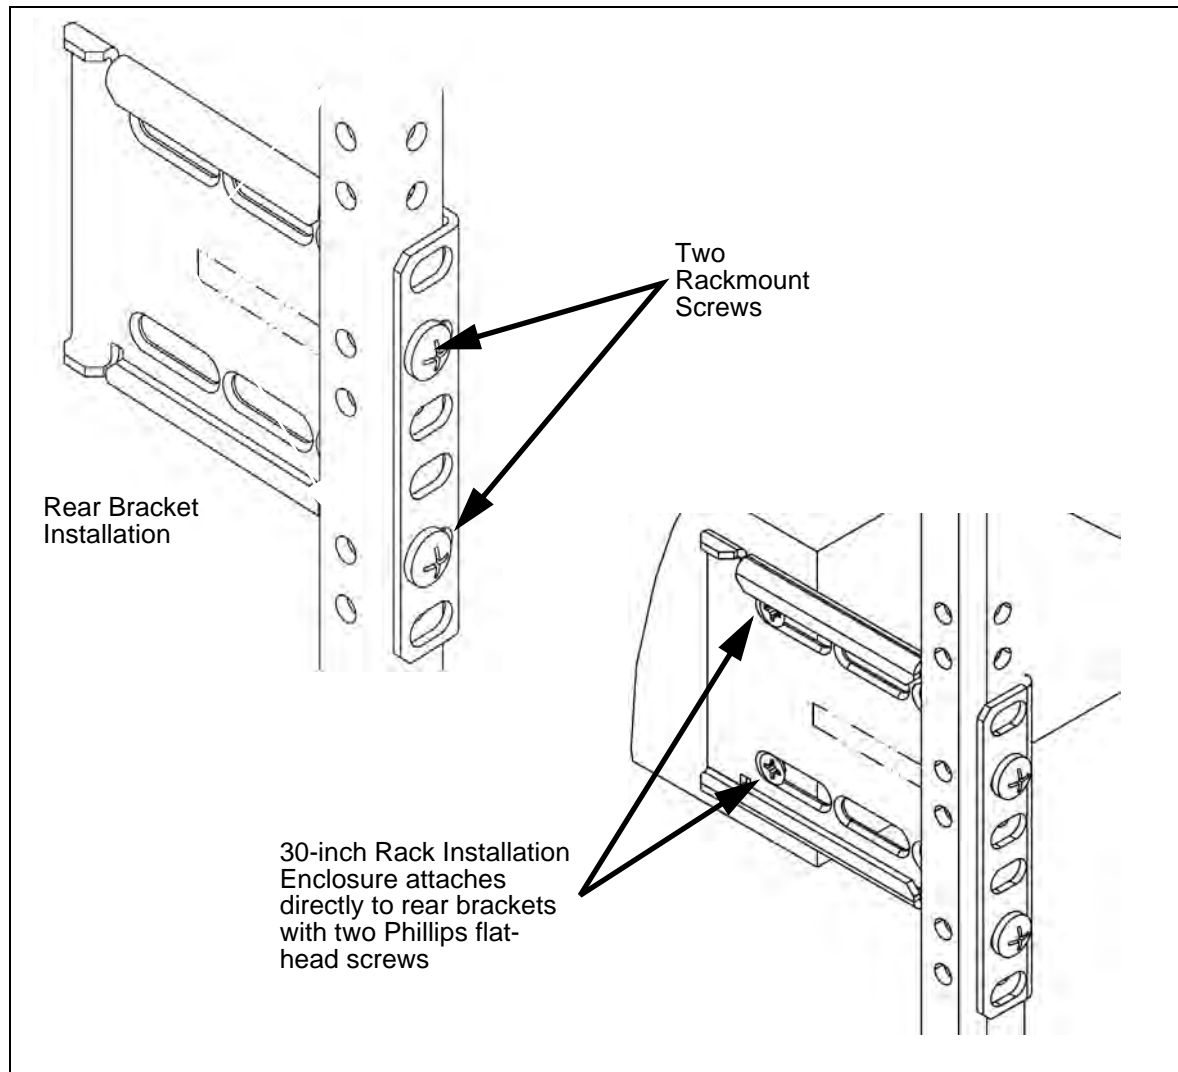

Figure 2.13 - Rear Bracket on Rack (Left)
5. Attach the rear brackets to the rear rack posts using two rackmount screws (Figure 2.13). Enclosures installed in 30-inch racks attach directly to the rear bracket.